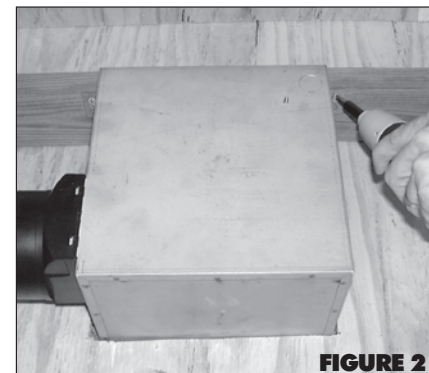
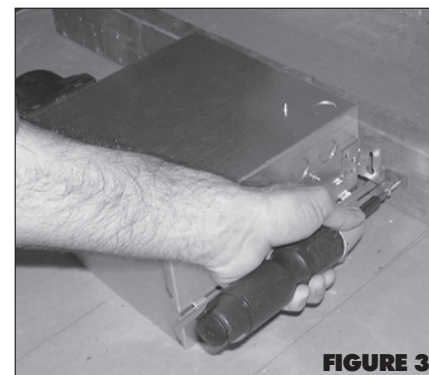

FIGURE 2
FIGURE 3
2. Attach housing to joist through keyhole mounting tabs (Fig. 2) or adjustable hanger bars (Fig. 3) using nails or screws. (Do not tighten.) Adjust the housing so it will not extend past the finished ceiling. The outer edge of the housing should be recessed 1/8" to 1/4" from the finished ceiling.